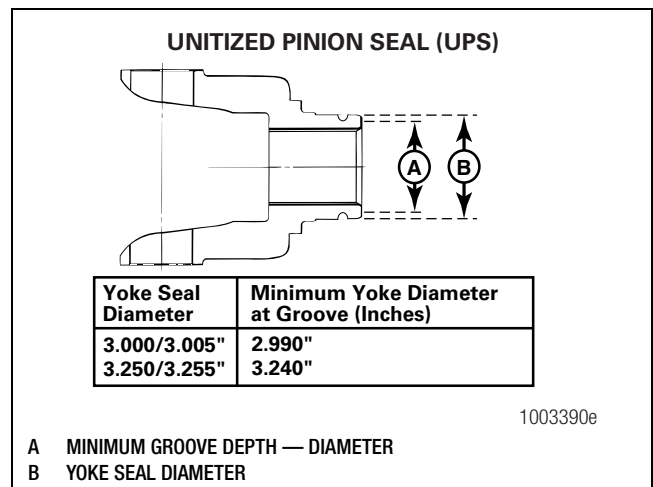

Figure 4.1
- If you find grooves on the yoke: Use calipers to measure the groove diameters. If any groove diameter measures less than the dimensions shown in Figure 4.1, replace the yoke.